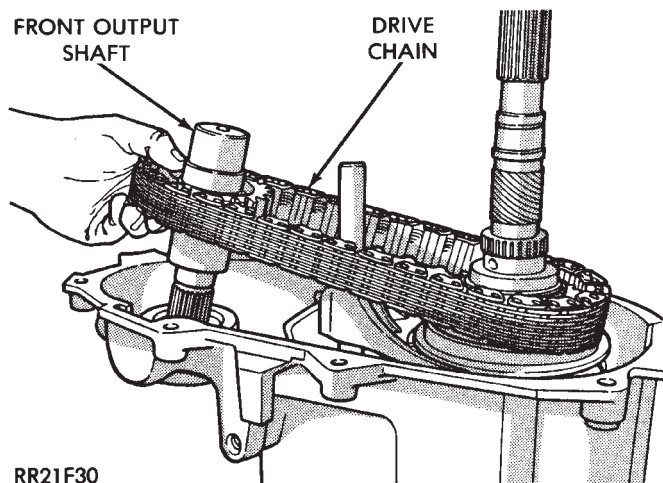

Fig. 10 Front Output Shaft And Drive Chain Removal
(18) Tap front output shaft upward with rawhide mallet to free it from shaft bearing.
(19) Remove front output shaft and drive chain (Fig. 10).